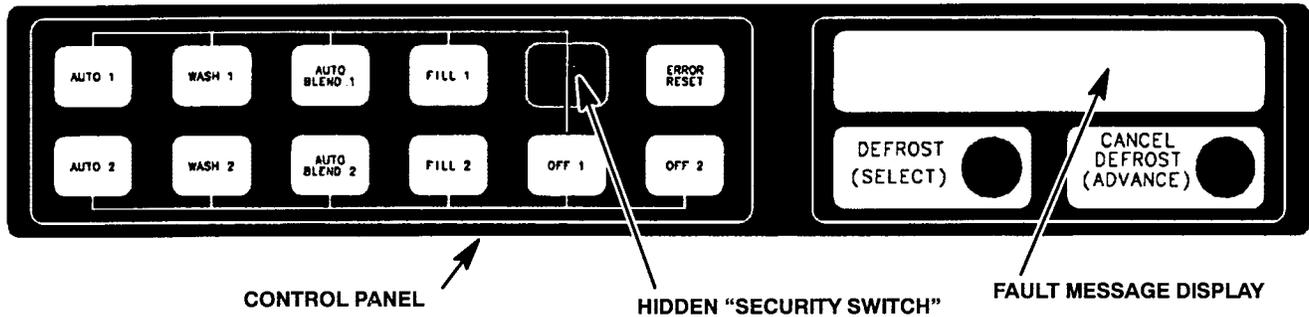

FIGURE 9. CONTROL PANEL
NOTE: The Unit control panel switches are as shown in Figure 9.
1. Press “AUTO 1”, “WASH 1”, and “BLEND 1” control switches (see Figure 9) at the same time and hold them pressed for a minimum of 1/2 second to bring up MAIN MENU SELECTIONS on message display. The word “CLOCK” will appear on display. You are now in the MAIN MENU SELECTIONS as shown in Table 3. To advance through the MENU SELECTIONS, repeatedly press the “CANCEL DEFROST” (ADVANCE) switch. Once you reach the desired selection, press the “DEFROST” (SELECT) switch to lock in on the selection.